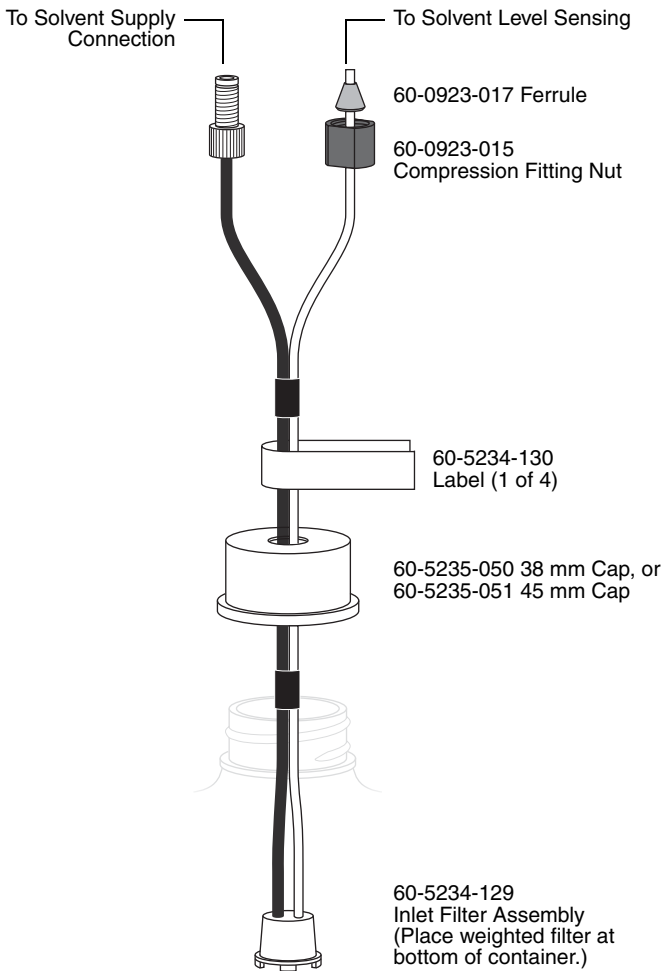

Figure 2-2 Recommended solvent connection
Figure 2-2 shows the recommended connections when the user-supplied solvent container has a 38 or 45 mm opening (GL 38 or GL 45).
1. Slide the nut and ferrule onto the tubing as shown in Figure 2-2.